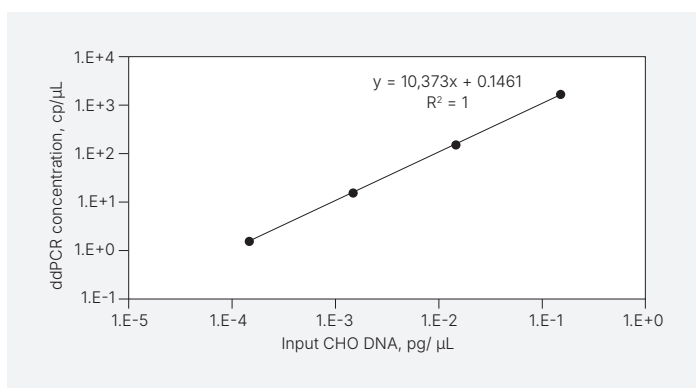

Fig. 4. Example conversion factor calculation.
- Perform a least squares linear regression of the data to determine the slope of the regression line. This slope is the conversion factor. An example standard curve is shown in Figure 4, which yielded a conversion factor of 10,373